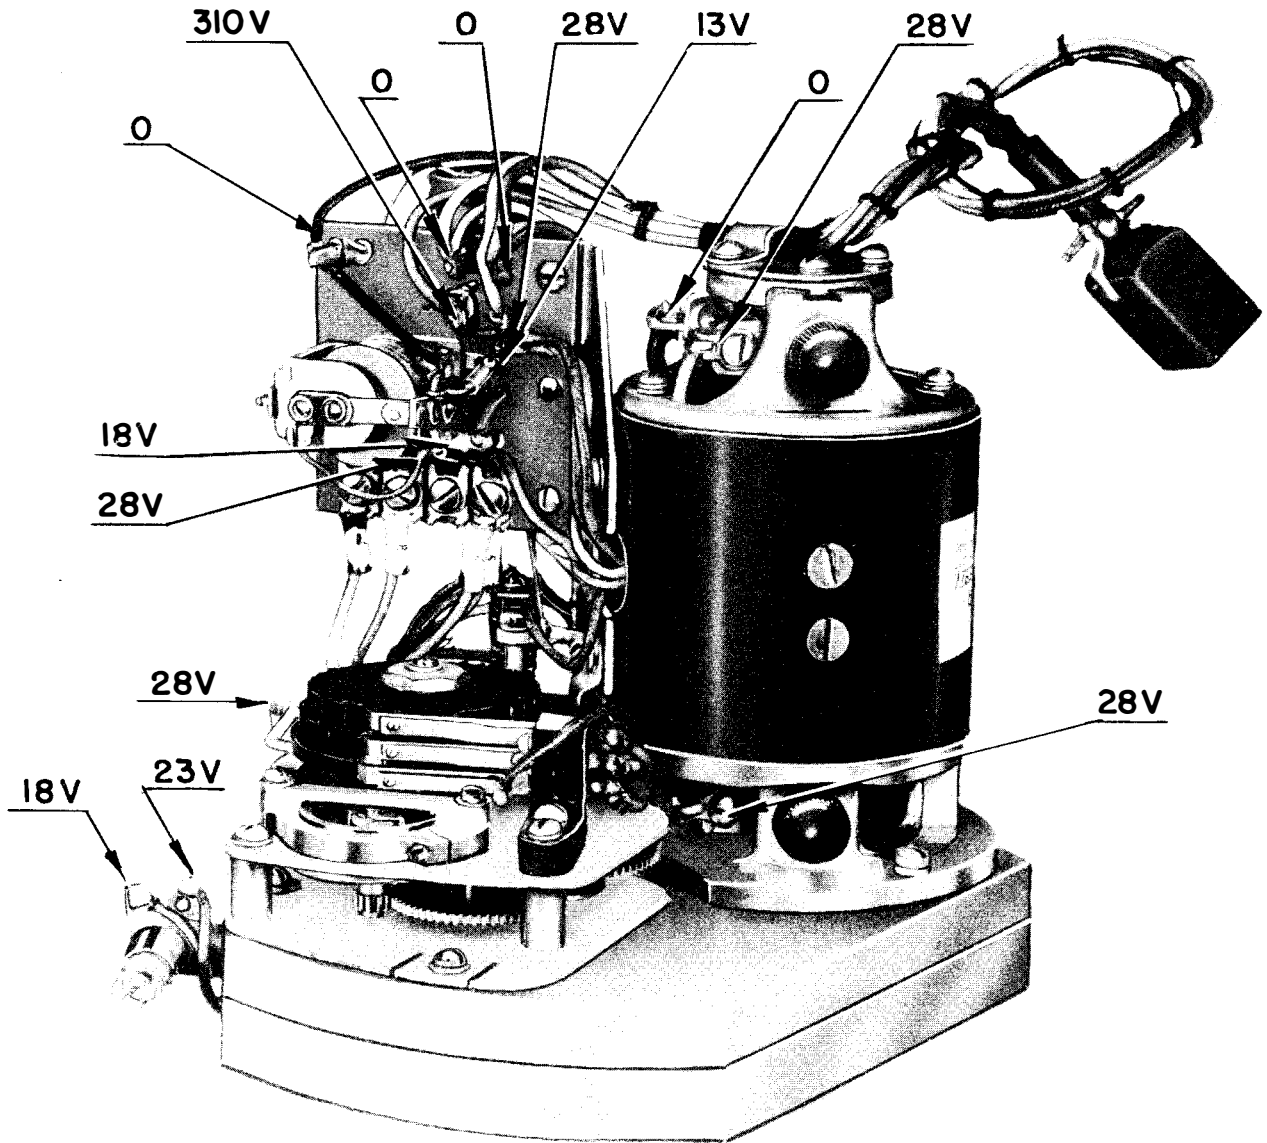

Figure 28—Radio Transmitter BC-778-C, BC-778-D or BC-778-E, Point Voltages of Power Supply
b. Approximate voltages above chassis ground in the power supply for all models, except Radio Transmitter BC-778-A, are shown in figure 28. These readings were taken with a 20,000-ohms-per-volt meter and with the crank turned at the speed indicated above.